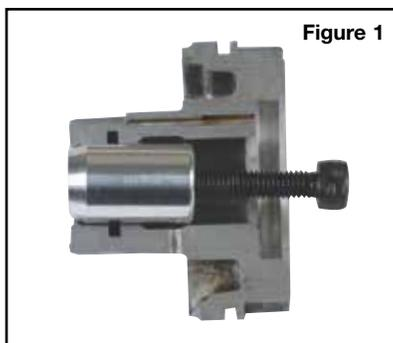

Figure 1
9. Remove tool **MB-B-1T** using an M6 fastener as a handle (**Figure 1**).